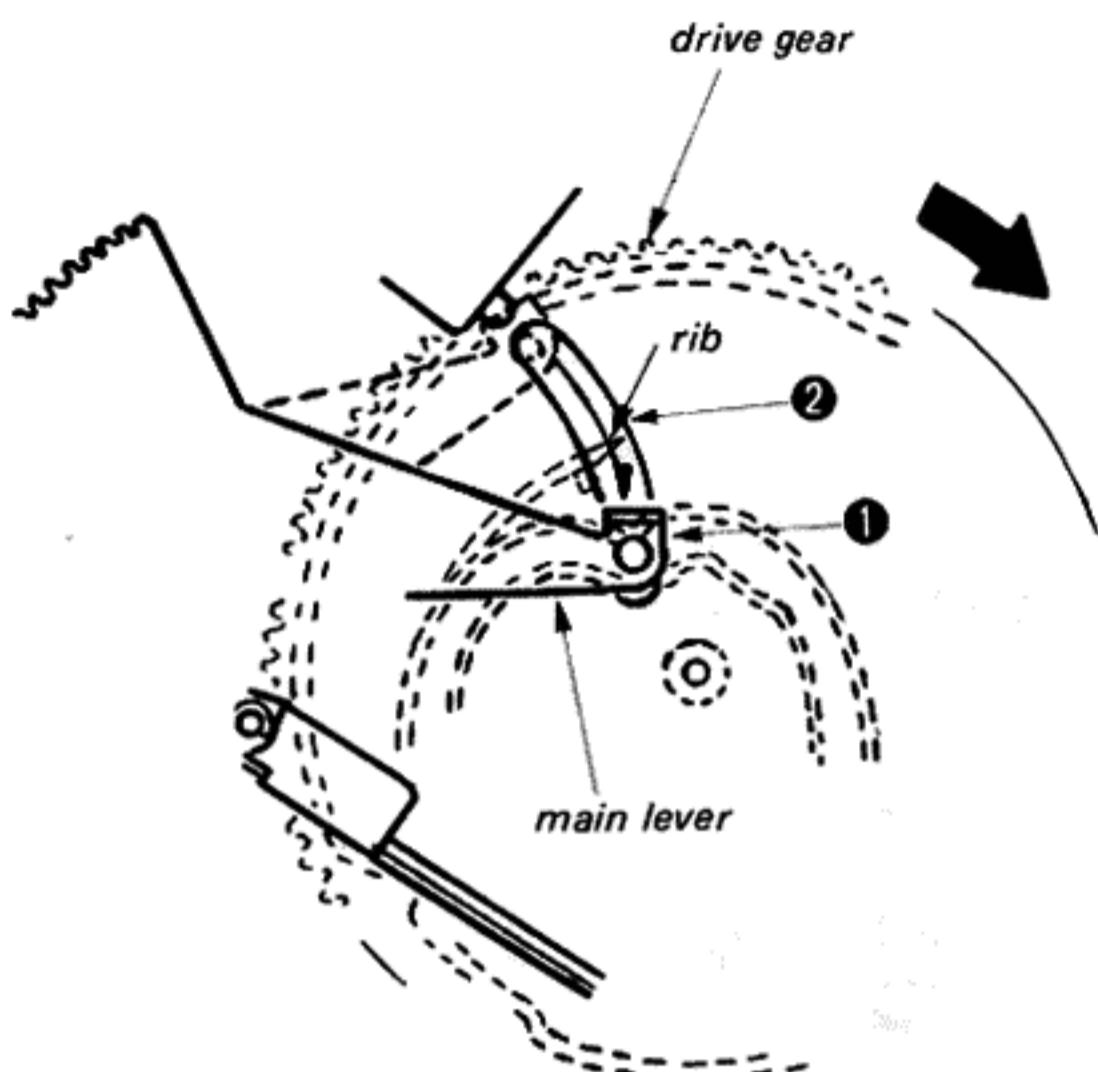

Fig. 1
1. Rotate the drive gear in the direction of the arrow as Fig. 1 and set the main lever in the position ① as illustrated.
3. Rotate the drive gear again, and set the drive gear in the position ② in Fig. 1 where rib of drive gear appears.